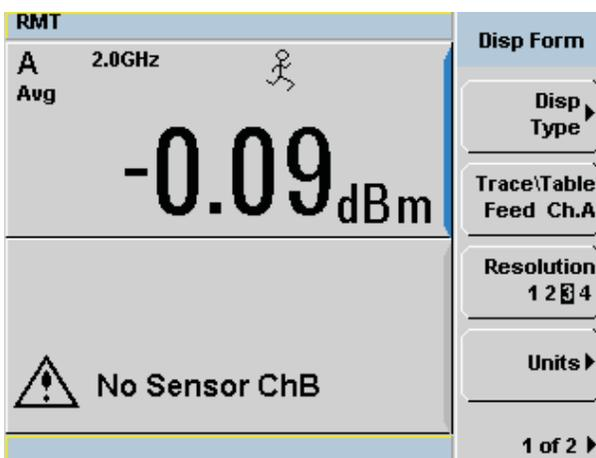

Figure 14. Average burst power of LTE-FDD measurement at 0 dBm
2. Set the frequency.	Press [Channel], press [] or [] to choose { Frequency } and change { Frequency } = 2 GHz. (See Figure 14 for measurement result).